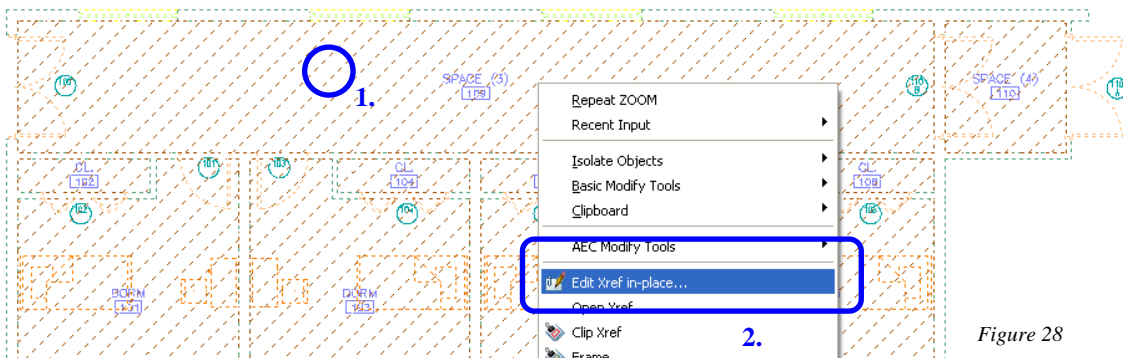

Figure 28
2. Select **Edit Xref in-place...** in the **Context Menu**. *Figure 28*